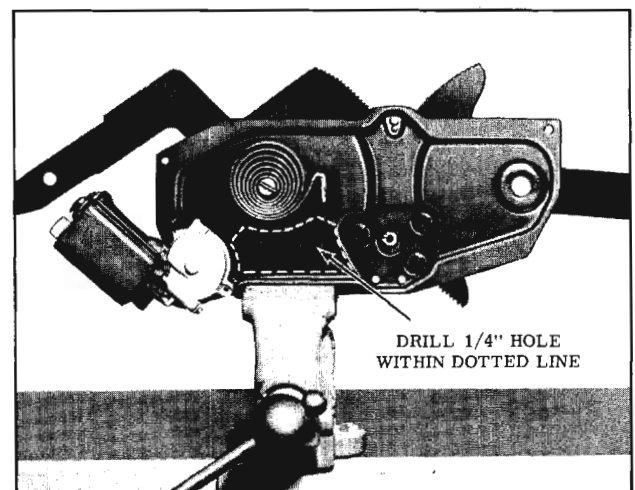

Fig. 16-194 Regulator Removal
2. Place regulator assembly in a vise as shown in Fig. 16-194.
3. Drill a 1/4" hole through regulator backplate and main sector within area indicated by dotted lines. (Fig. 16-194)